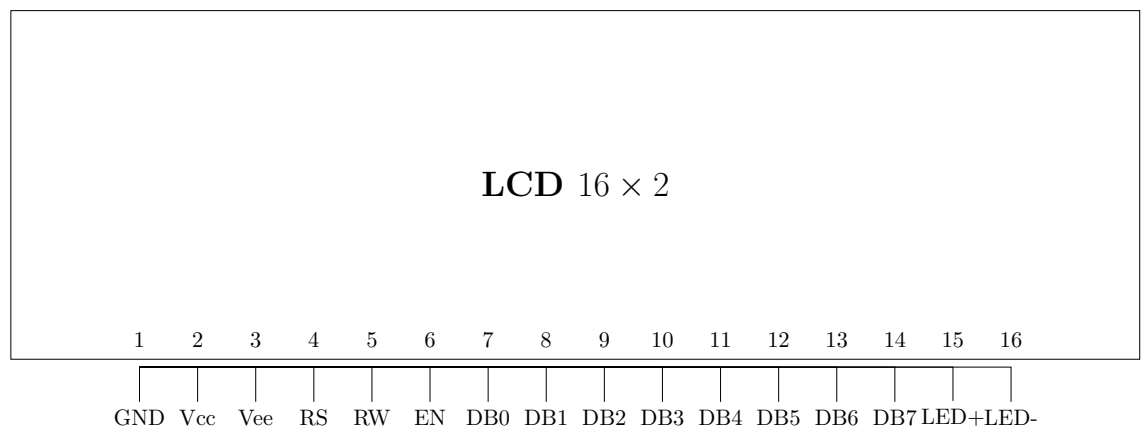

Figure 2: LCD
1. Plug the LCD in Fig. 2 to the breadboard.